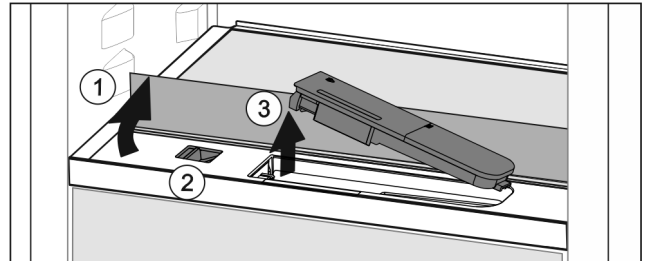

Fig. 127
- ▶ Lift the glass panel and fold towards the rear until it clicks into place Fig. 127 (1).
- ▶ Slide the slider Fig. 127 (2) to the left.
- ▶ Remove the water tank Fig. 127 (3).